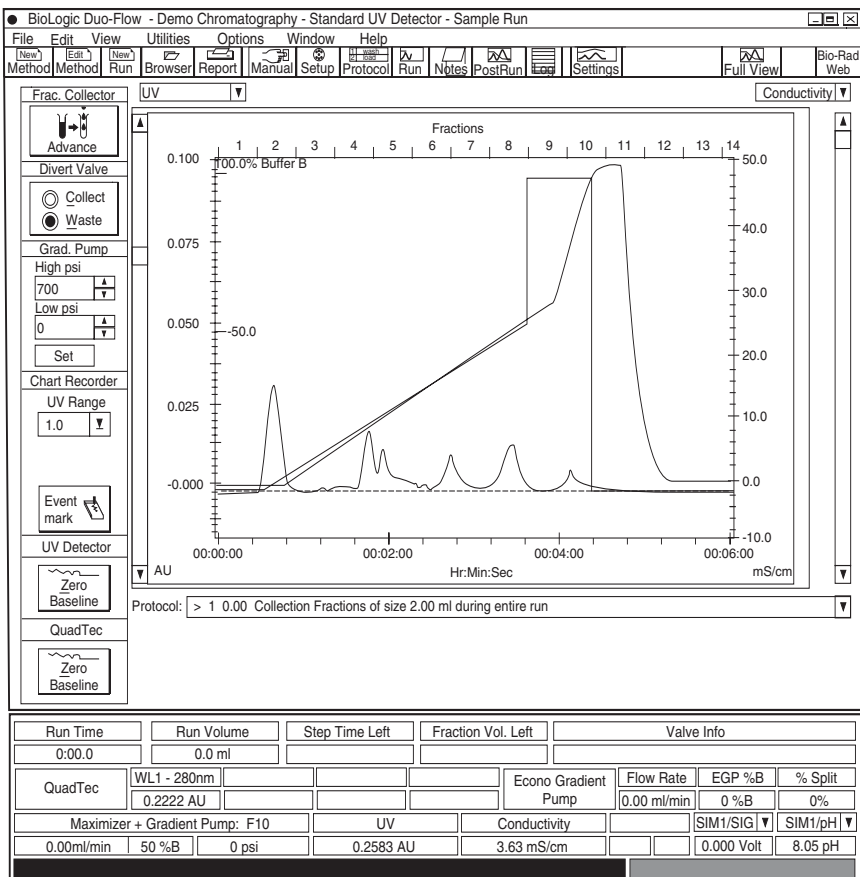

Fig. 5. Run Screen (UV detector and conductivity traces)
c. When you have finished programming the method, press the toolbar button RUN. A dialog box will ask you to name the run. Accept the default Run 1 and click the OK button. You will now see the Run screen (see Figure 5).
- f. Figures 5 and 6 show typical run screens and chromatograms for this separation using the UV or QuadTec UV/Vis detectors.